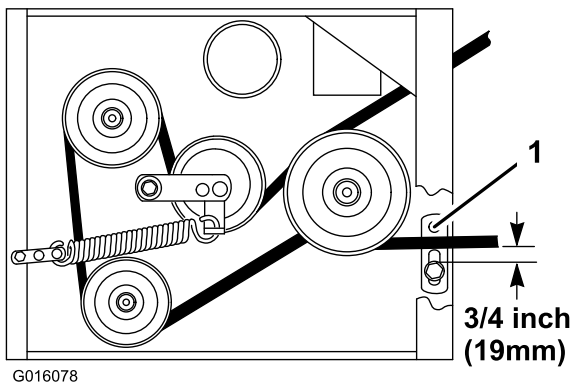

Figure 45
- Check the belt guide under the engine frame for proper adjustment (Figure 45).
Note: When the mower belt is engaged, ensure the distance between the belt guide and the mower belt is 19 mm (3/4 inch) (Figure 45). Adjust the mower belt guide as necessary. The disengaged belt should not drag or fall off the pulley when the guides are properly adjusted.